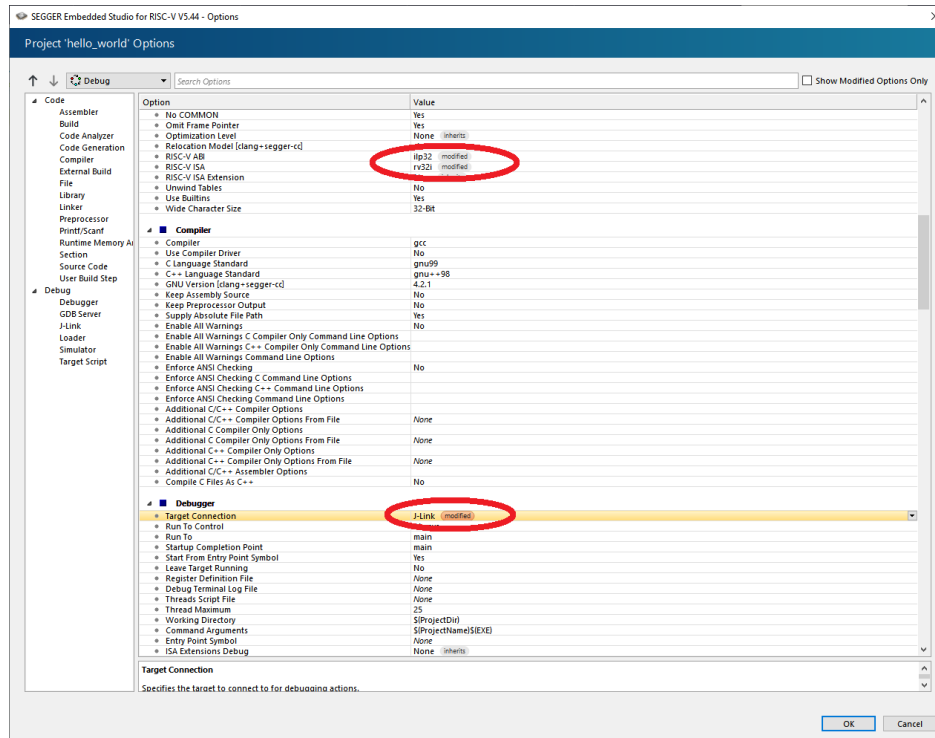

Figure 6-8 Embedded Studio, RISC-V ABI, RISC-V ISA and Target Connection
- Under Code Generation, set RISC-V ABI to "ilp32", set RISC-V ISA to "rv32i", as shown in Figure 6-8.
- Under Debugger, set Target Connection to "J-Link", as shown in Figure 6-8.